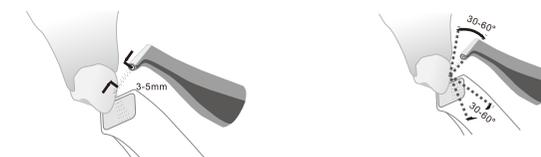

Figure 6
- When the dental air polisher is used for normal sandblasting and tooth cleaning, it is recommended to maintain a distance of 3 ~ 5 mm between the air outlet of the nozzle and the tooth surface, and it is recommended that the sandblasting direction is at an included angle of 30 ~ 60 ° with the tooth surface, as shown in "Figure 6".